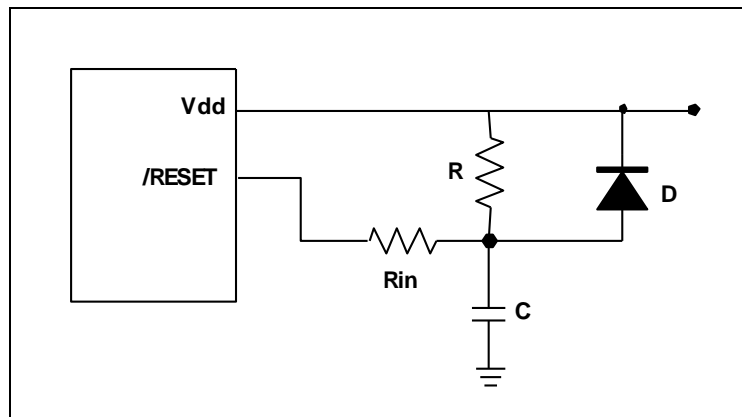

Figure 6-23 External Power-up Reset Circuit
The circuit shown in Figure 6-23 implements an external RC that can produce the reset pulse. The pulse width (time constant) should be kept long enough for Vdd to reach minimum operation voltage. This circuit is used when the power supply has slow rise time. Because the current leakage from the /RESET pin is $\pm 5\mu\text{A}$, it is recommended that R should not be greater than 40K. In this way, the /RESET pin voltage is held below 0.2V. The diode (D) acts as a short circuit at the moment of power down. The capacitor C will discharge rapidly and fully. The current-limited resistor, Rin, will prevent high current or ESD (electrostatic discharge) from flowing to pin /RESET.